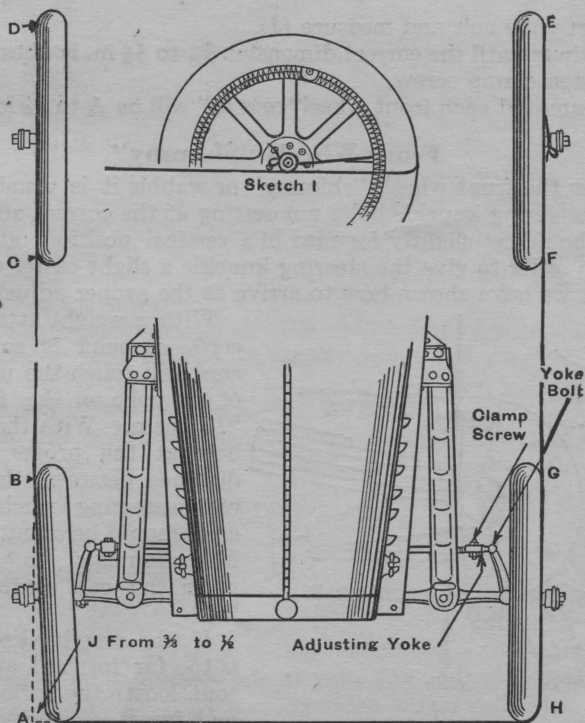

Fig. 50—Front wheel alignment
Fasten securely one end of a stout cord around either right or left rear wheel hub. (Sketch 1, Fig. 50.)
Pass the cord between the spokes toward the rear and around the tire, across the face of the wheel at the height of the hub. (Sketch 1, Fig. 50.)
Pass the cord completely around the front of the car across the faces of each of the wheels at the height of the hub, and tie the end around the tire at the point (D), (Fig. 50).